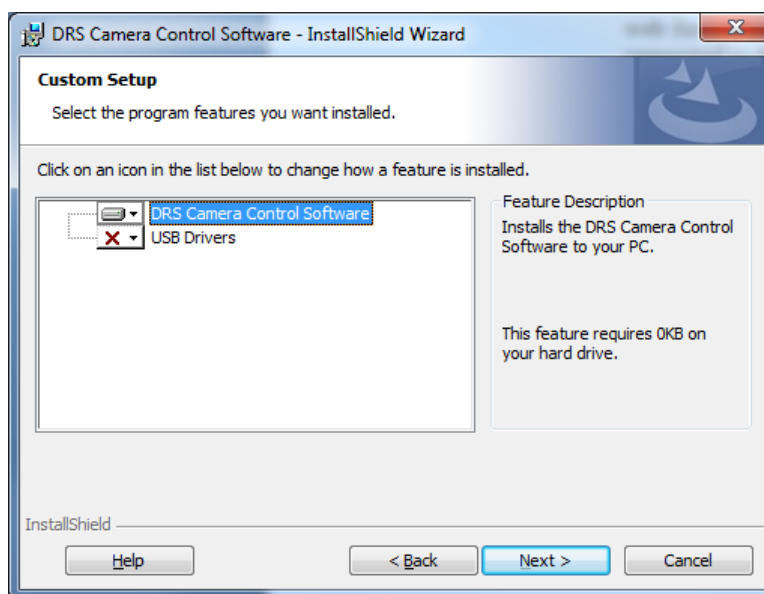

Figure 59 InstallShield's Custom Setup
- ☐ Follow the on screen menu. When the InstallShield Wizard displays the "Modify, repair, or remove the program" menu, select *Modify*. The *Custom Setup* screen in Figure 59 will appear. It indicates the USB drivers were not installed during the initial installation process. Select the USB Drivers pull down and ensure this feature will be installed to the local hard drive option is selected. Select Next to continue the installation